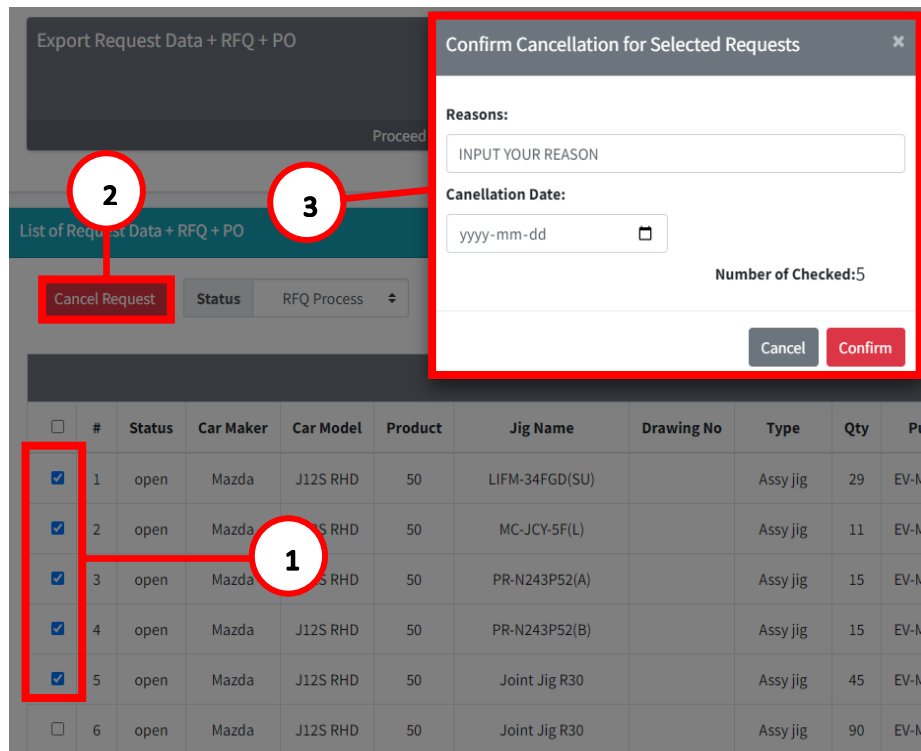

Figure 2.6
1. To cancel, **select the checkbox** that corresponds to the item you wish to cancel (See Figure 2.6)
2. Click the **Cancel Request** to pop up the Cancellation for Selected Request. (See Figure 2.6).
3. Provide an **explanation** for canceling and include the **date of cancellation**, click the confirm button. (See Figure 2.6).